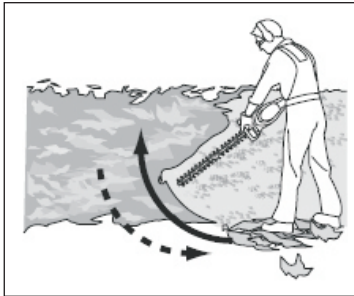

Fig. 21
6. First cut both sides from the bottom cutting upwards to the top. This will prevent any of the trimmings falling into the path of the area still to be cut (Fig. 21).